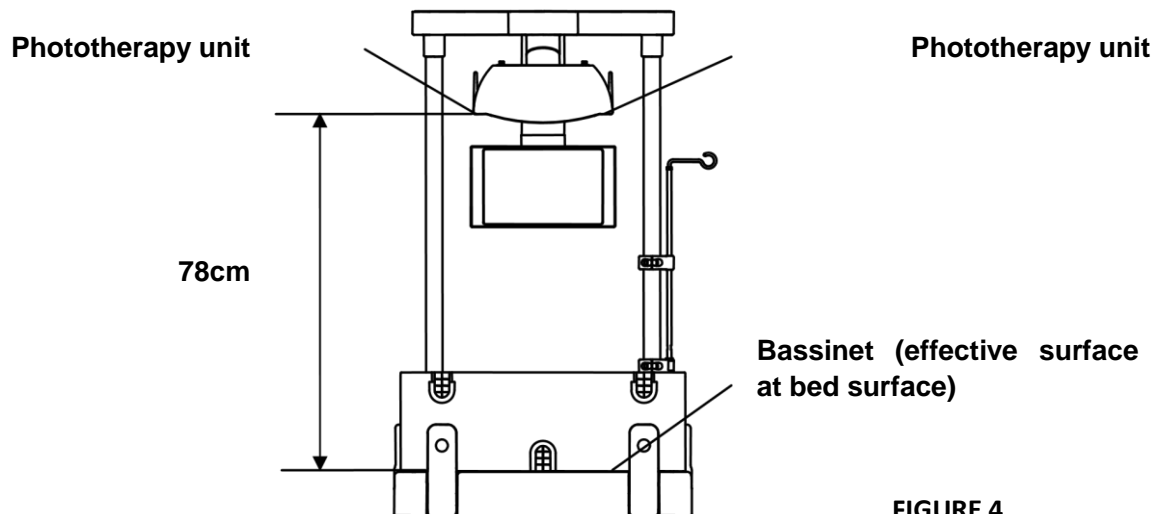

FIGURE 4
5.2.2.2 The phototherapy installation is fixed on the radiant warmer, so that the space between the effective surface and phototherapy installation is 78cm (see figure 4). Place naked patient on the effective surface 300mm×250mm as figure 5 indicates.